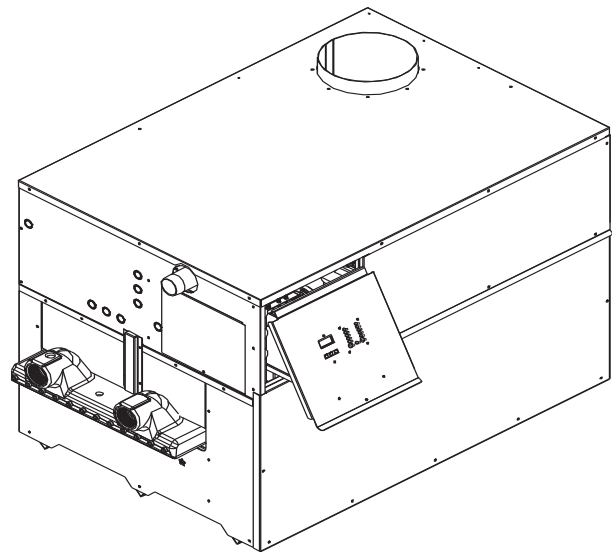

FIG. 43 Control Panel Cover
3. Loosen knurled knob at bottom of control panel cover (see FIG. 43).